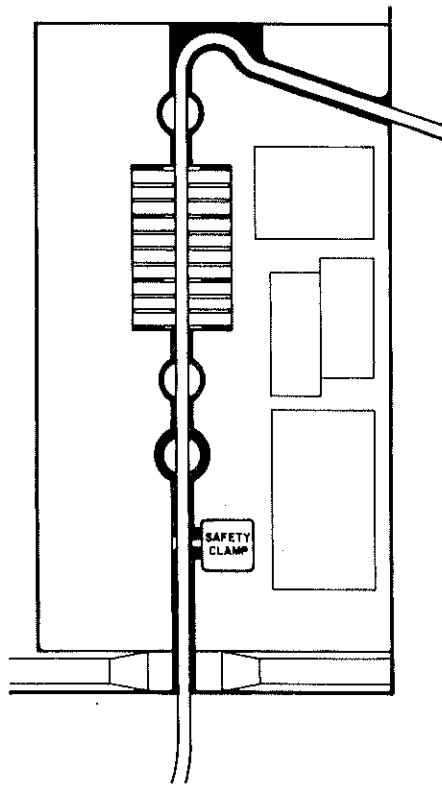

Figure 4. Tube Loading Diagram
7. Thread tubing through guide channel from top to bottom as shown in fig. 4.